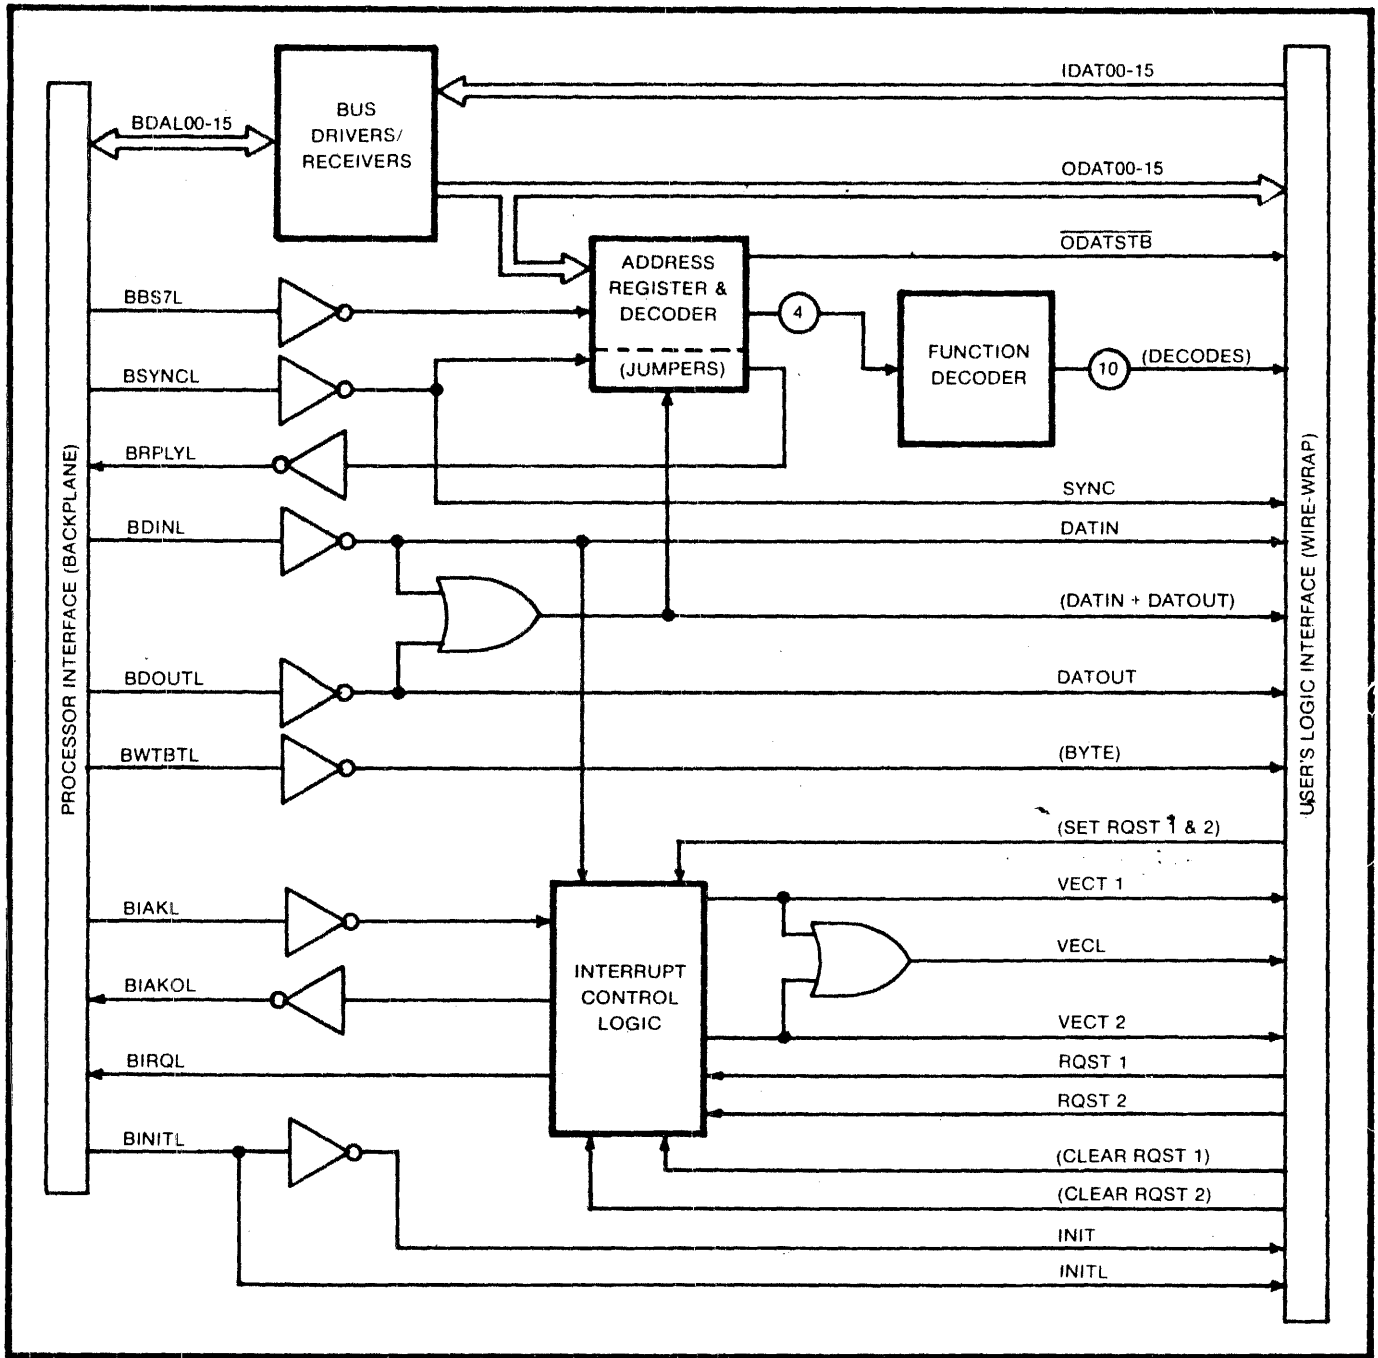

Figure 1. MDB MLSI-DRV11P General-Purpose Interface Module, Functional Block Diagram
- a. Fixed logic to interface with the processor, and with the user-built peripheral device interface on the module. Fixed logic includes bus receivers and drivers, device address selection and decoding logic, and dual interrupt control logic, (see figure 1).
(Refer to figure 1, and to the logic diagram, Dwg. No. 40345).